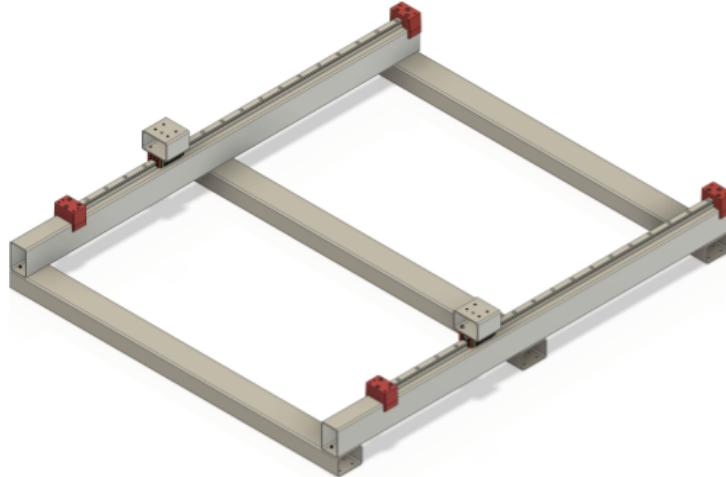

Figure 8.3
3. Install both BK12 Mounts onto the tapped holes created in step 6 using M6x40mm bolts as shown in Figure 8.3.